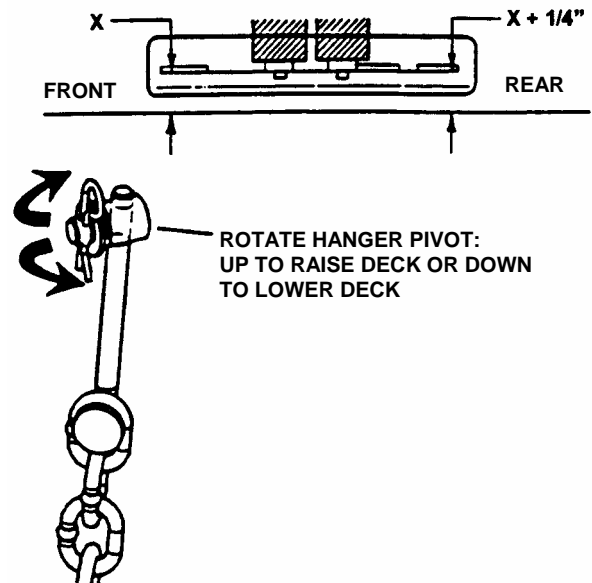

FIGURE 4.12
2. Turn each hanger pivot the same number of rotations on the eye-bolt to raise or lower the rear of the deck. See Figure 4.12.